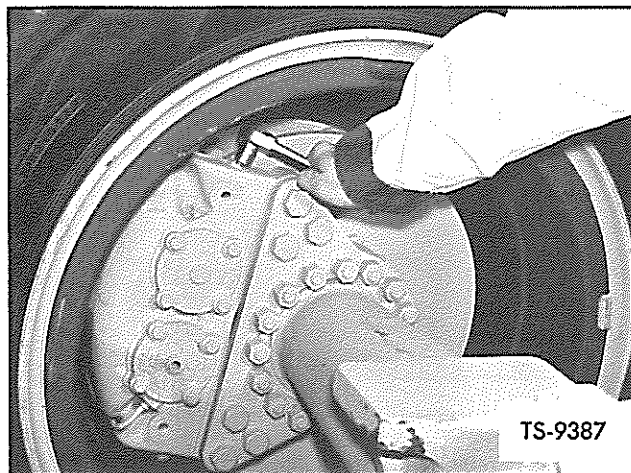

Fig. 3. Loosen Locking Bolts
1. Refer to Figure 3 and loosen the two locking bolts at the most accessible end of the brake head.